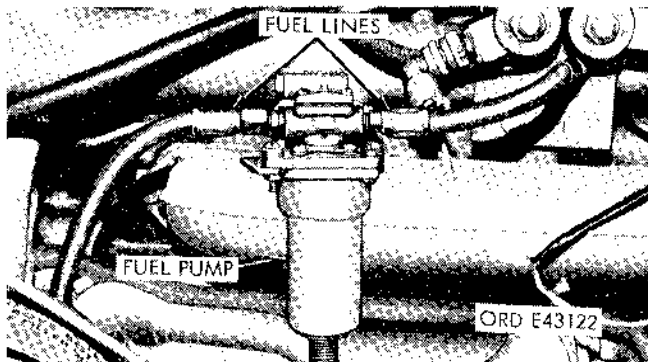

Figure 2-105. Disconnecting fuel lines at pump.
(2) Disconnect the two fuel lines (fig. 2-105) from the pump.
(2) Connect the two fuel lines to the pump (fig. 2-105).